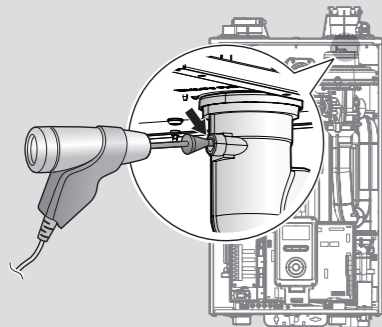

Figure 6. Insert the Analyzer
- a. Loosen the screw, rotate the plate and remove the gasket to access the emissions monitoring port as shown in Figure 6.
- b. Insert the analyzer into the port (Figure 6).